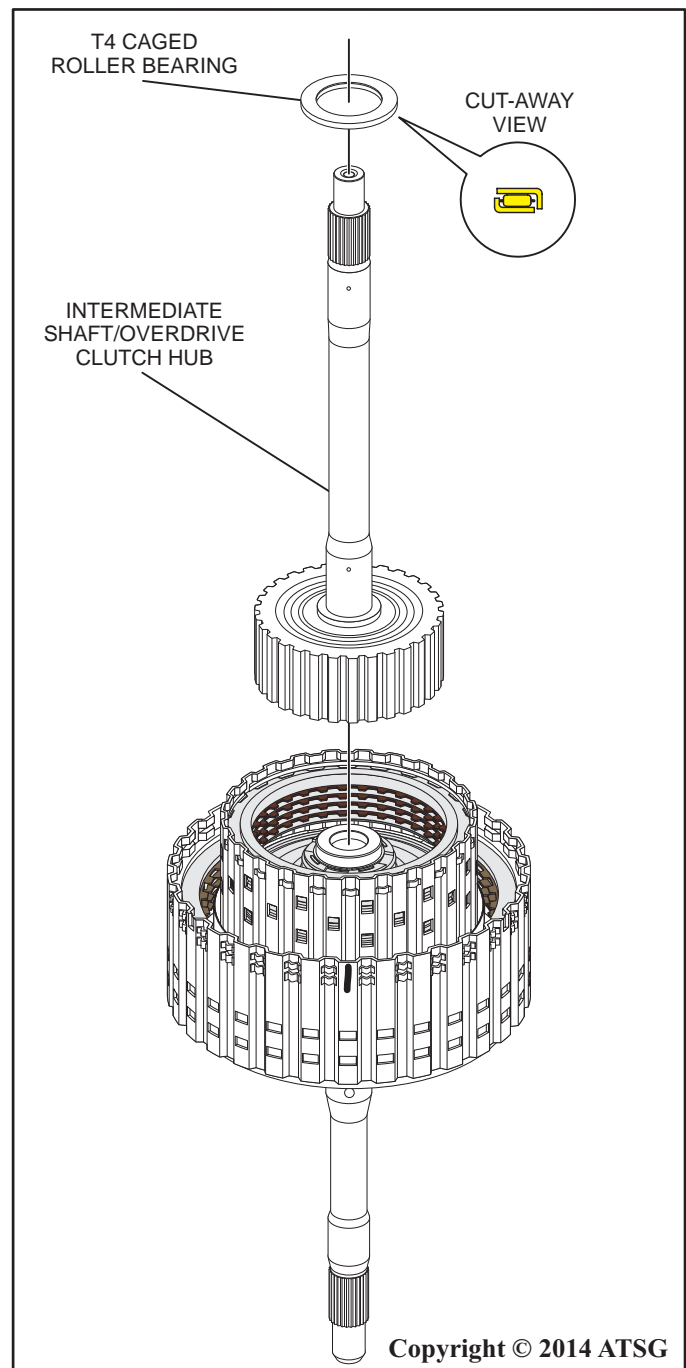

Figure 73
5. Remove the intermediate shaft/overdrive clutch hub as shown in Figure 73.
6. Remove the T4 caged roller bearing from the intermediate shaft/overdrive clutch hub as shown in Figure 73.